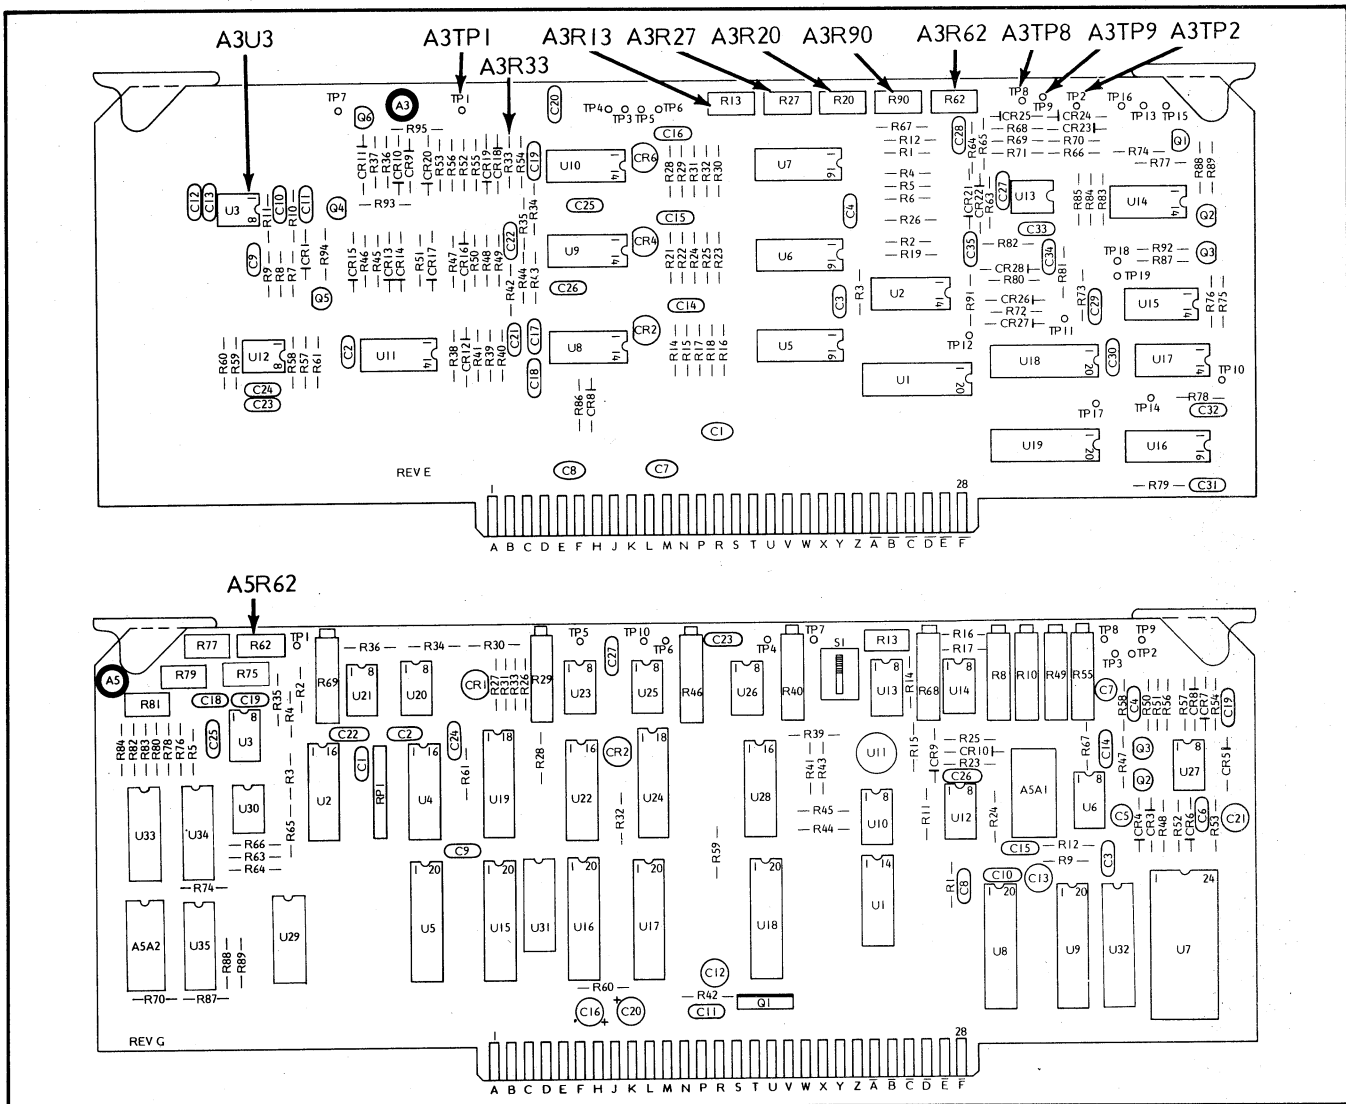

Figure 5-13. A3 Marker Generator Adjustments
4. With a digital multimeter (DMM) referenced to A3TP1 (Figure 5-13),
- (d) adjust A3R13 (Figure 5-13) until the F0 marker is just visible on the right edge of the oscilloscope display, as shown in Figure 5-14;
- (b) adjust A3R13 (Figure 5-13) until the F0 marker is just visible on the right edge of the 560 display, as shown in Figure 5-16.
6. Move the INCREASE/DECREASE lever to its full INCREASE position, and adjust A3R62 (Figure 5-13) for $+4.8\text{V} \pm 20$ mV.